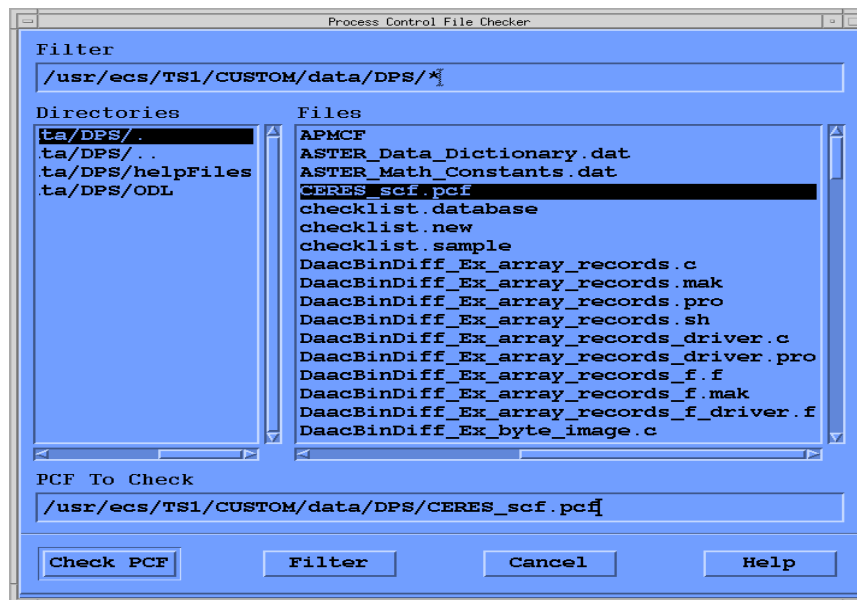

Figure 26.5.6-1. Process Control File Checker GUI
- 1 From the SSIT Manager, select **Tools → Standards Checkers → Process Control File Checker** from the menu, see figure 26.5.6-1.